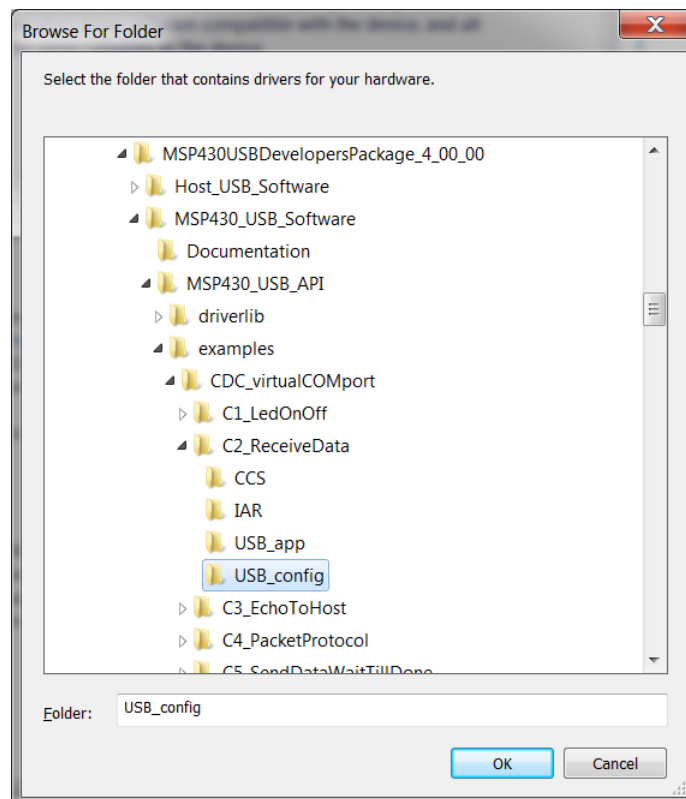

图 27. Project Content With USB_Config
4. Navigate to the *USB_config* directory for the CDC example in question (see 图 27). Be sure to select the right folder for the example. Then, click the *OK* button.